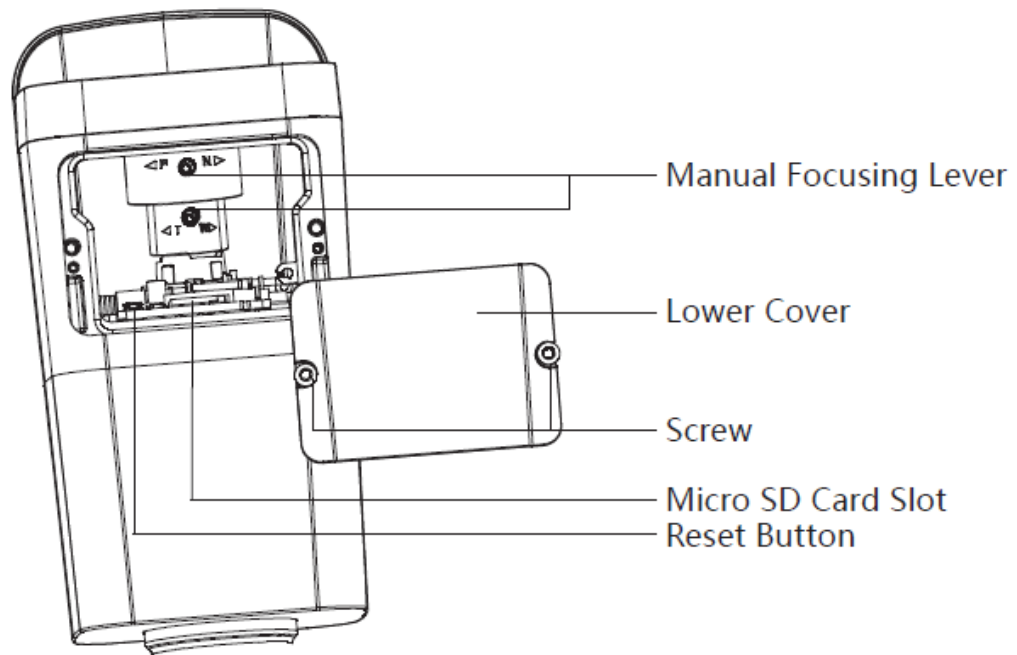

Figure 2-2
- 2) Please insert the Micro SD card into the slot which is shown in Figure 2-2, the card slot is elastic so it only needs to press slightly to install the Micro SD card.